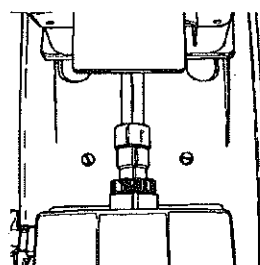

Fig.C-7
11. Remount the Jointer on its tubes. Check the horizontal alignment again. If it is still not aligned, repeat Steps 9 and 10 until you achieve it. Fig.C-7 shows alignment.